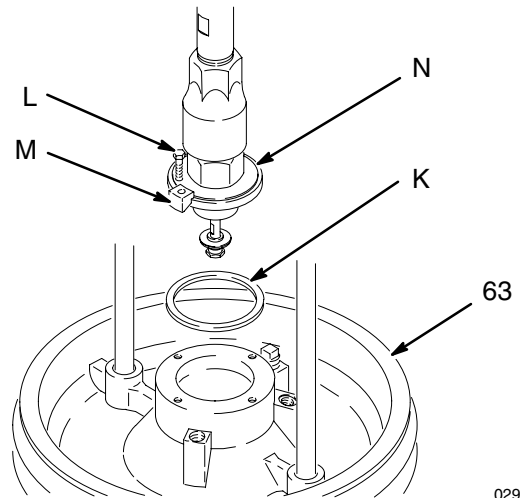

Fig. 3
4. Place the gasket (K) from Mounting Kit 222776 on the ram plate (63). See Fig. 3. Loosen the mounting bracket setscrews (35), and carefully lower the pump onto the gasket and plate. Secure the pump's intake flange (N) to the plate with the screws (L) and lugs (M) included in the mounting kit.